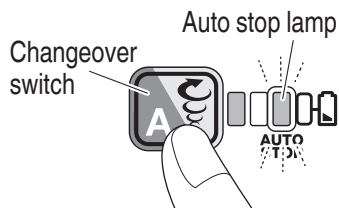

Fig. 13
- (1) Select the number of rotations or the number of impacts with the changeover switch.
- (2) Pressing the changeover switch for longer than two seconds will move to memory mode. (At the same time the auto stop lamp will blink.) (**Fig. 13**)